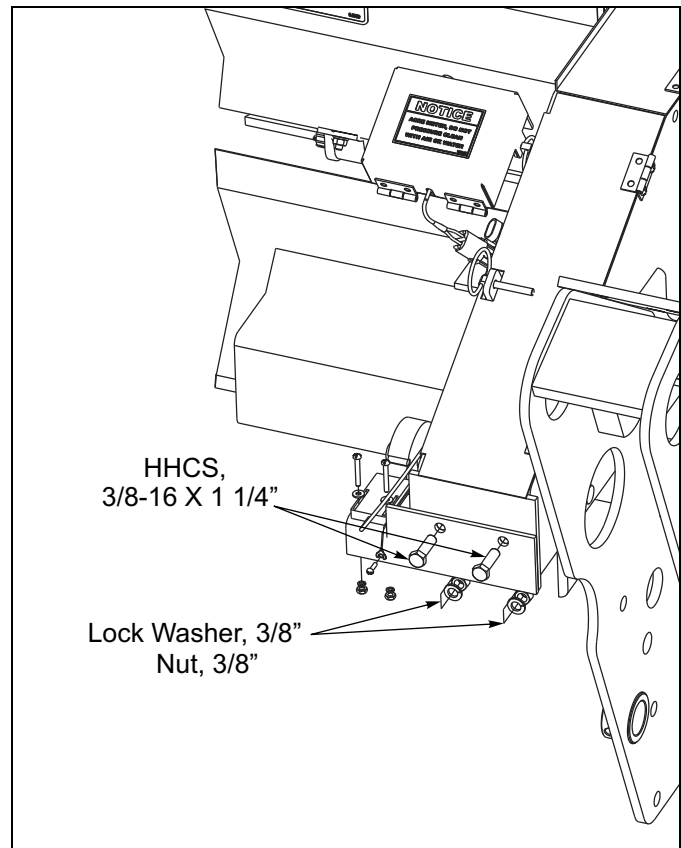

Figure 2-12: Electronic Acre Meter (1 of 3)
1. Use the acre meter bracket as a guide and drill two 13/32" holes into seedbox at location shown in illustration. Then attach the acre meter bracket as shown with two 3/8-16 x 1" capscrews, lock washers and nuts. **See Figure 2-12.**